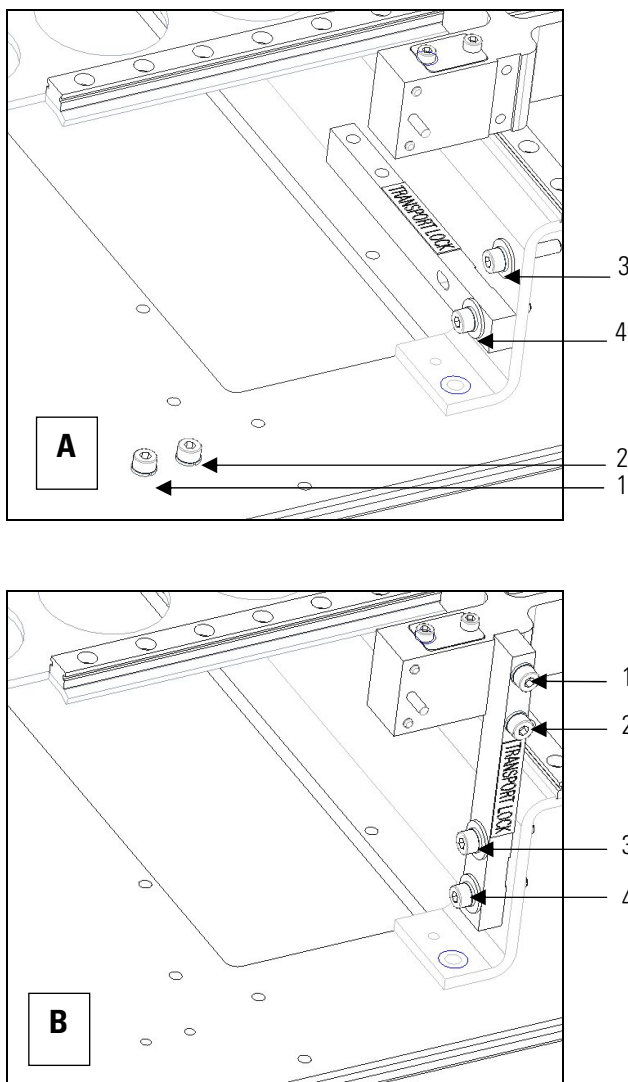

Figure 5–63. Transport lock released (A) and fastened (B) (screws 1 – 4 shown)
4. Lift up the front cover of the instrument from both sides (Figure 5–51) and remove it so that the storage site of the transport lock support and the support retaining screws marked 1, 2, 3, and 4 become accessible (Figure 5–63 A).
5. Remove the bottom screw marked number 3 (Figure 5–63 A).
6. Loosen the bottom screw marked number 4 of the transport lock slightly by using the hexagonal screwdriver supplied (Figure 5–63 A).
When you have loosened the screw number 4 so that the transport lock bar moves, turn the transport lock bar into a vertical position towards the front of the instrument (Figure 5–63 B). Fit the transport lock bar into its groove in the tray holder.